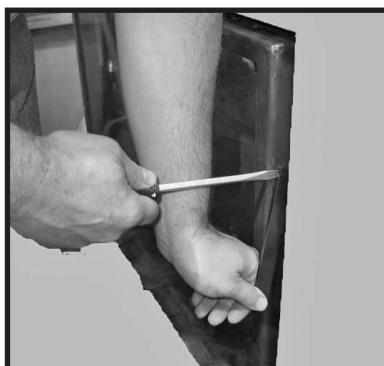
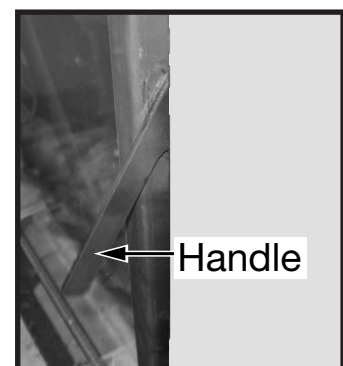

Figure 5: Accessing handle.
Figure 6: Handle.
3. Using a screwdriver (Figure 5) or other similar object, push against the notch in the top of the latch and grab the bottom of the latch handle as it protrudes. Lift handle until latch hook disengages (Figure 6). Repeat for other side while holding glass so it does not tip out.